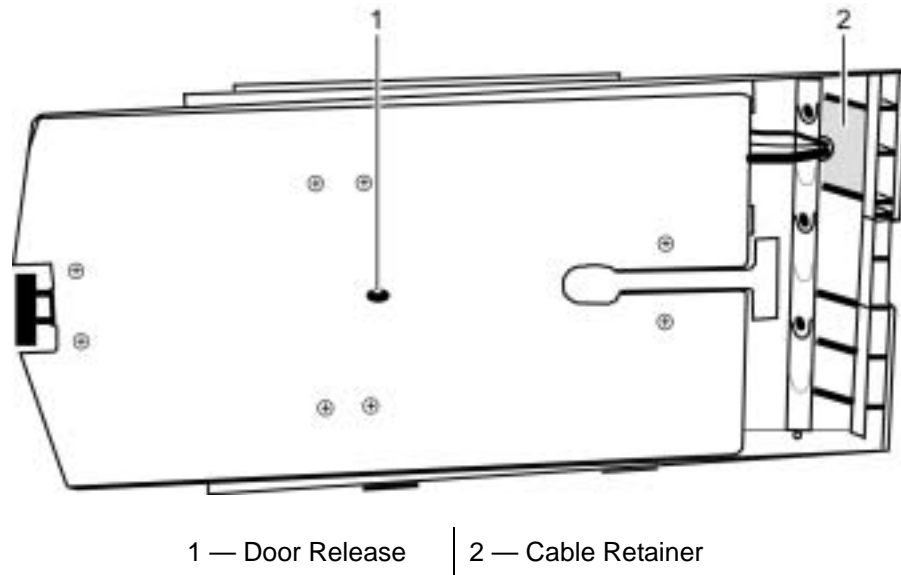

Figure 31: Door Assembly Cable Retainer
8. Remove the cable retainer from the chassis assembly. See Figure 31. The cable retainer should be pushed from the top of the chassis assembly.